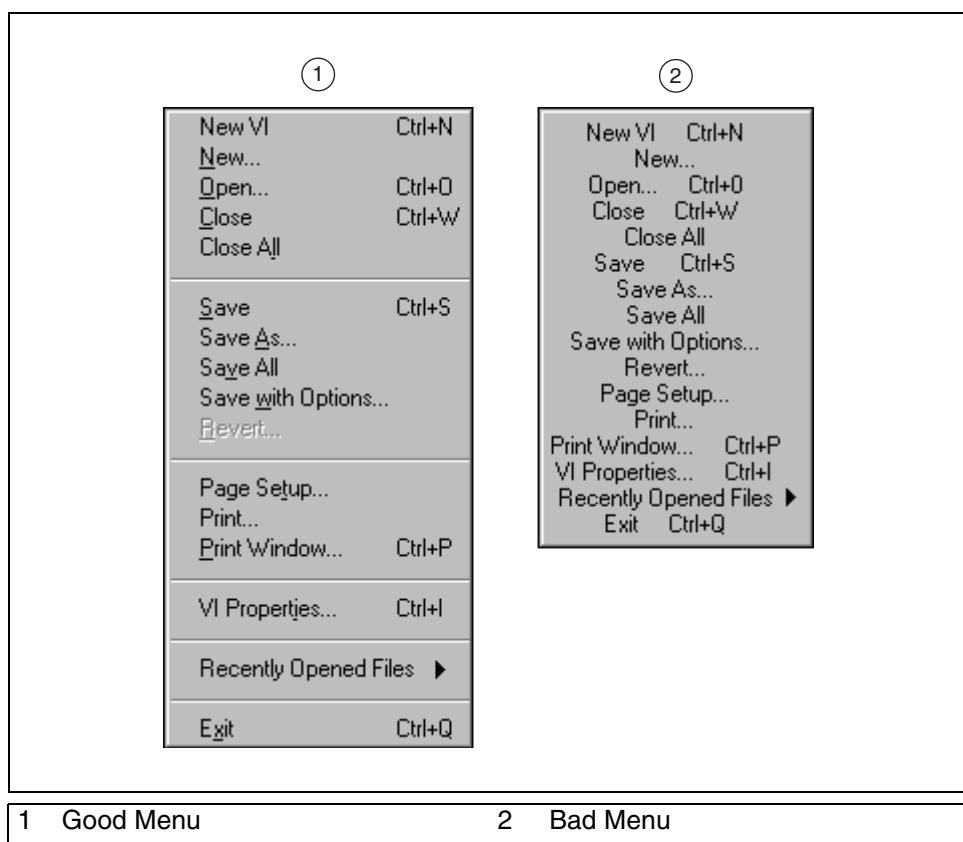

Figure 4-3. Good and Bad Menu Examples
- Use dividing lines between menu sections, as shown in Figure 4-3, to help you find the items quickly and strengthen the relationship between the items in the sections.